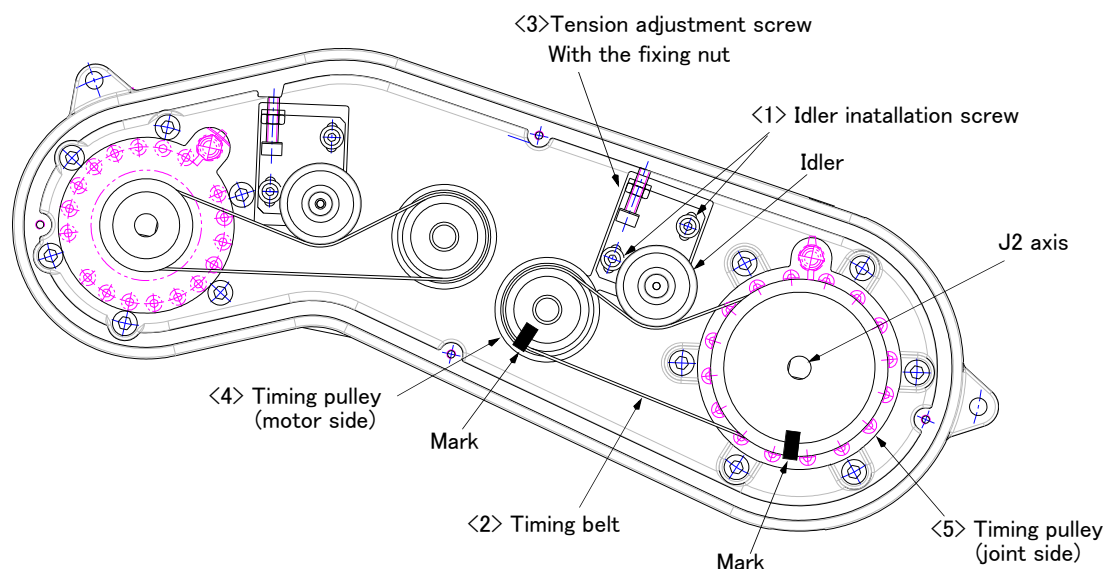

Fig.5-6 : Inspection, maintenance and replacement of J2 axis timing belt
The reference figure at inspection, adjustment, and replacement of the timing belt is shown in Fig. 5-6.
- 3) Make marks on the timing belt <2> and timing pulleys <4> and <5> with a felt-tip pen as shown in Fig. 5-6 so that the engagement of the timing belt <2> and timing pulleys <4> and <5> does not deviate.